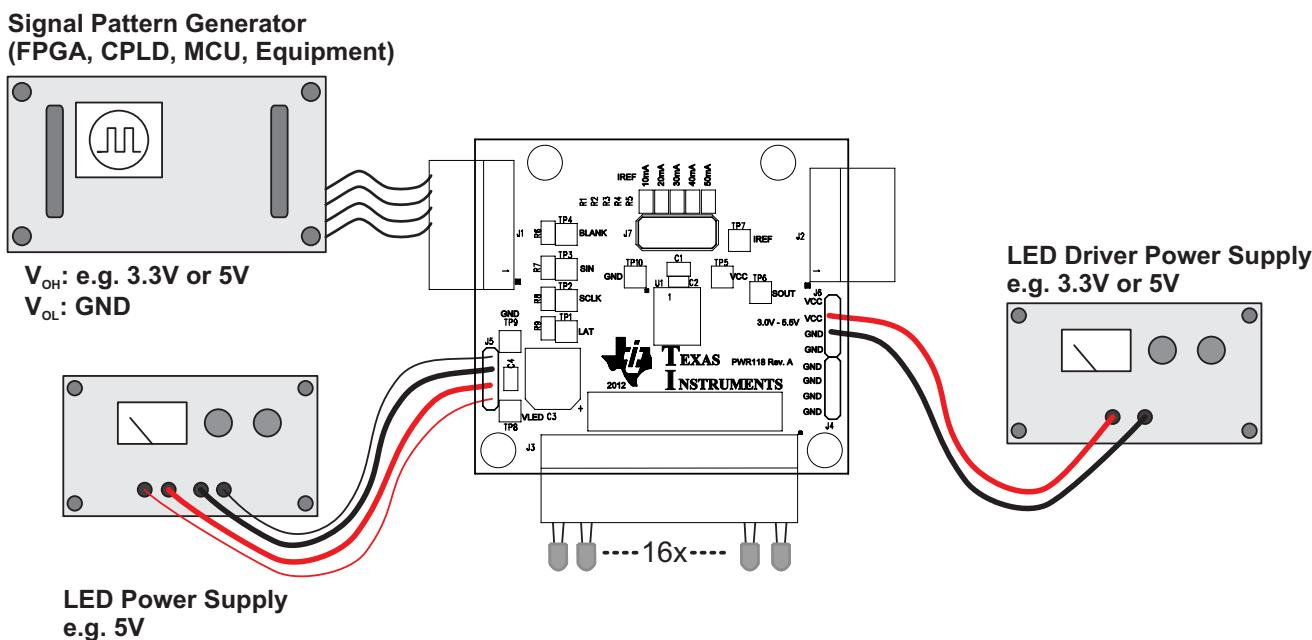

Figure 2. TLC5929 EVM Recommended Test Set-Up
Connect V_{CC} to J6 and V_{LED} to J5 as shown in Figure 2.
Figure 2 shows the basic test set up recommended to evaluate the TLC5929 EVM. Note that although the return for J5 and J6 are the same system ground, the connections should remain separate as shown in Figure 2.
2. Before connecting the DC input sources, V_{CC} and V_{LED} , limit the source currents. Set V_{CC} and V_{LED} to 0 V, initially, and connect as shown in Figure 2.
4. Connect the DC power supplies, V_{CC} and V_{LED} , to the EVM as shown in Figure 2.
5. Connect the pattern generator or MCU to the EVM as shown in Figure 2.